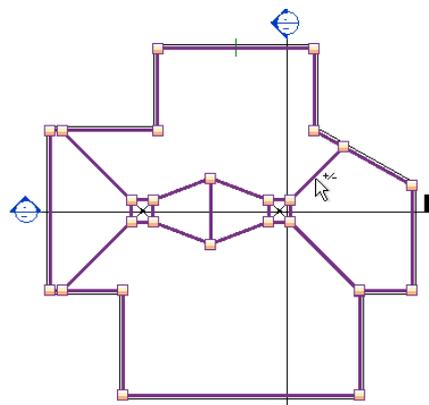

Figure 5: Use Section Views to adjust roof elevations.
1. Create at least two section views to see the roof section at the edges and at the roof drain locations (see Figure 5).